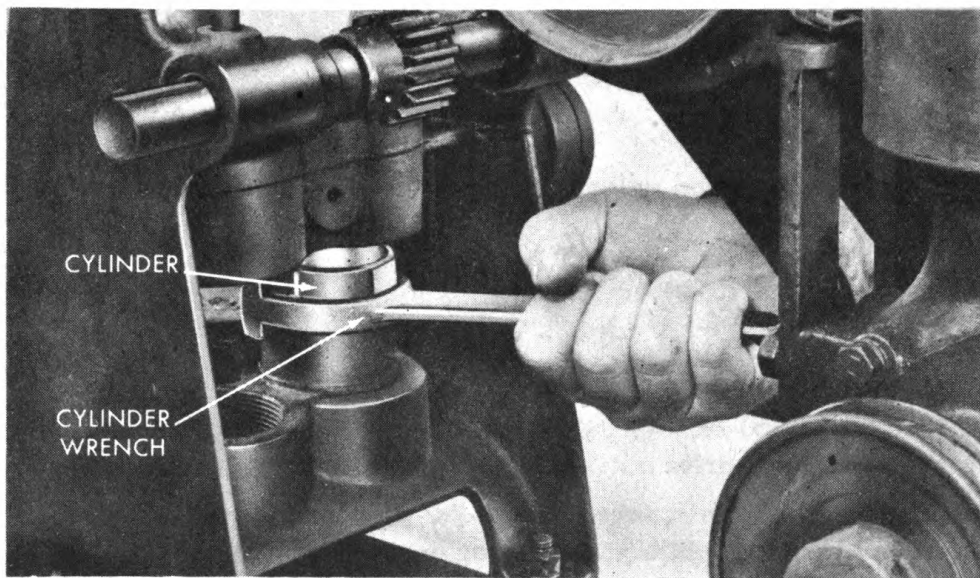

Figure 37—Cylinder Removal
(4) Using cylinder wrench supplied with equipment, unscrew and remove cylinders. Cylinders are right-hand threaded; therefore, turn them to the left (counterclockwise) to remove. (See figure 37.)
(5) Remove gaskets from cylinder housings.